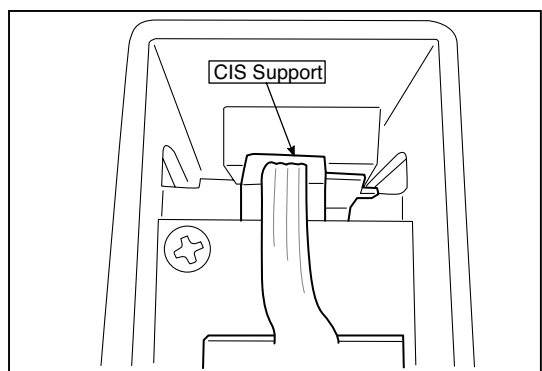

Fig. 21
* The CIS Unit with a CIS Support (see Fig. 21) is located in the upper position.